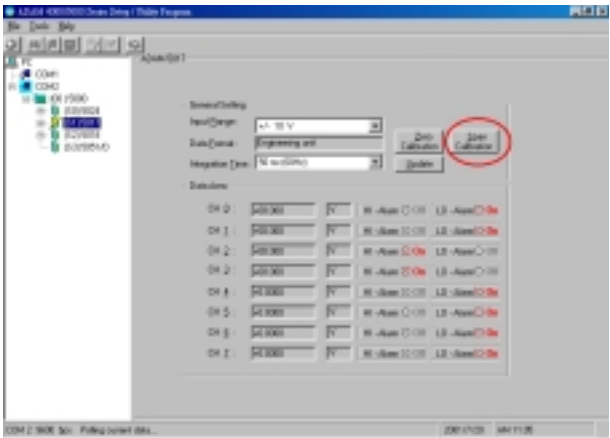

Figure 5-9: Span Calibration
- (1). Use a precision voltage source to apply a calibration voltage to the modules' terminals of the specific channel.
- (2). Click the “Span Calibration” button. See Figure 5-9